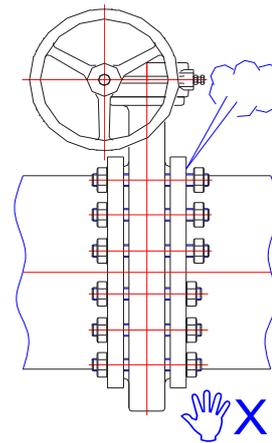

Fig.28
17.3.2 Do not loose flange bolts, valve bolts when valve is on service. (Fig.28)